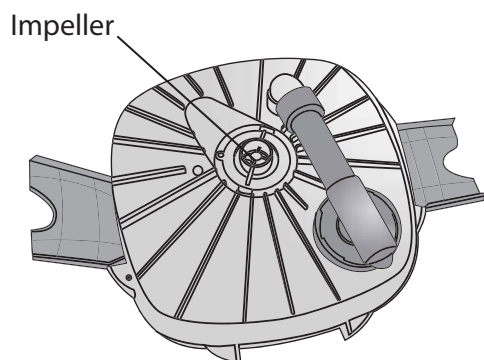

Fig 7
9. Prior to installing the head unit, turn it over, remove the impeller cover extension pipe so you can see the impeller. Make certain that the power cord is not wet and plug it into the receptacle. Turn it on and ensure the impeller is spinning. You should be able to hear the impeller spinning. If the impeller does not turn see “Cleaning Your Filter” for instructions on how to assess the impeller. Fig 7